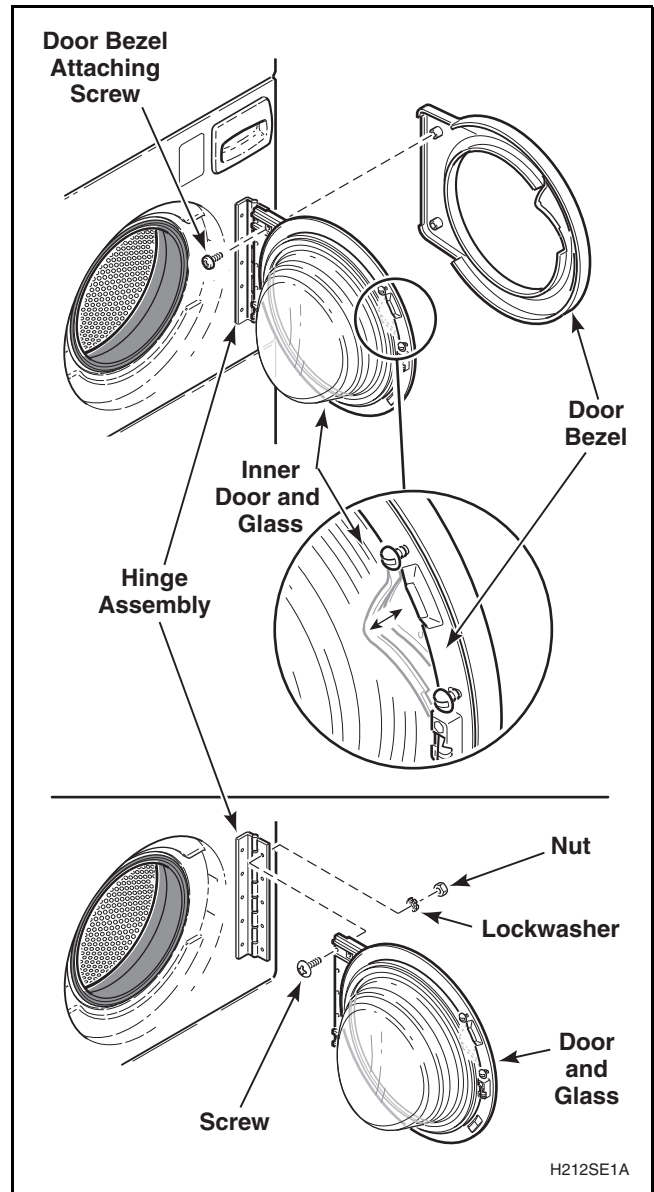

Figure 36
- b. Remove door bezel by removing screws holding door bezel to inner door and glass. Refer to *Figure 36*.
- c. While supporting loading door, remove screws, lockwashers and nuts holding loading door to hinge assembly and remove door. Refer to *Figure 36*.